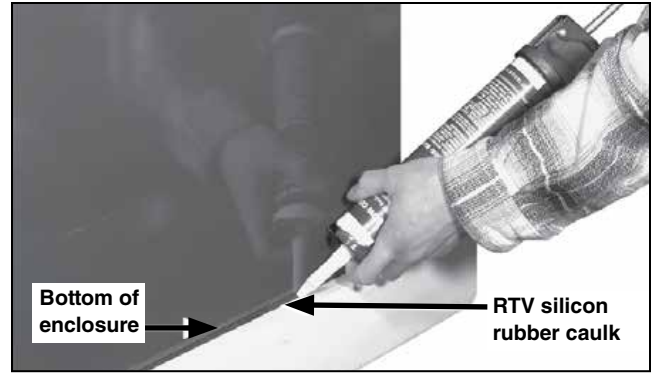

Figure 46. Caulking around the bottom of enclosure.
- STEP 1.** Caulk around the bottom of the enclosure; a weatherproof silicon-rubber room temperature vulcanizing (RTV) compound is recommended. See Figure 46.